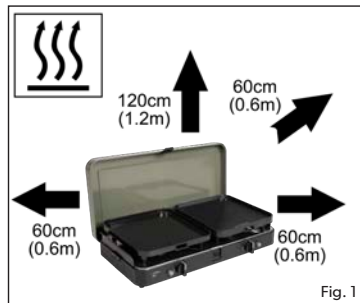

Fig. 1
- This appliance must be kept away from flammable materials during use. Minimum safe distances are: Above the appliance 1.2m. At the rear and sides 600mm (See fig. 1).